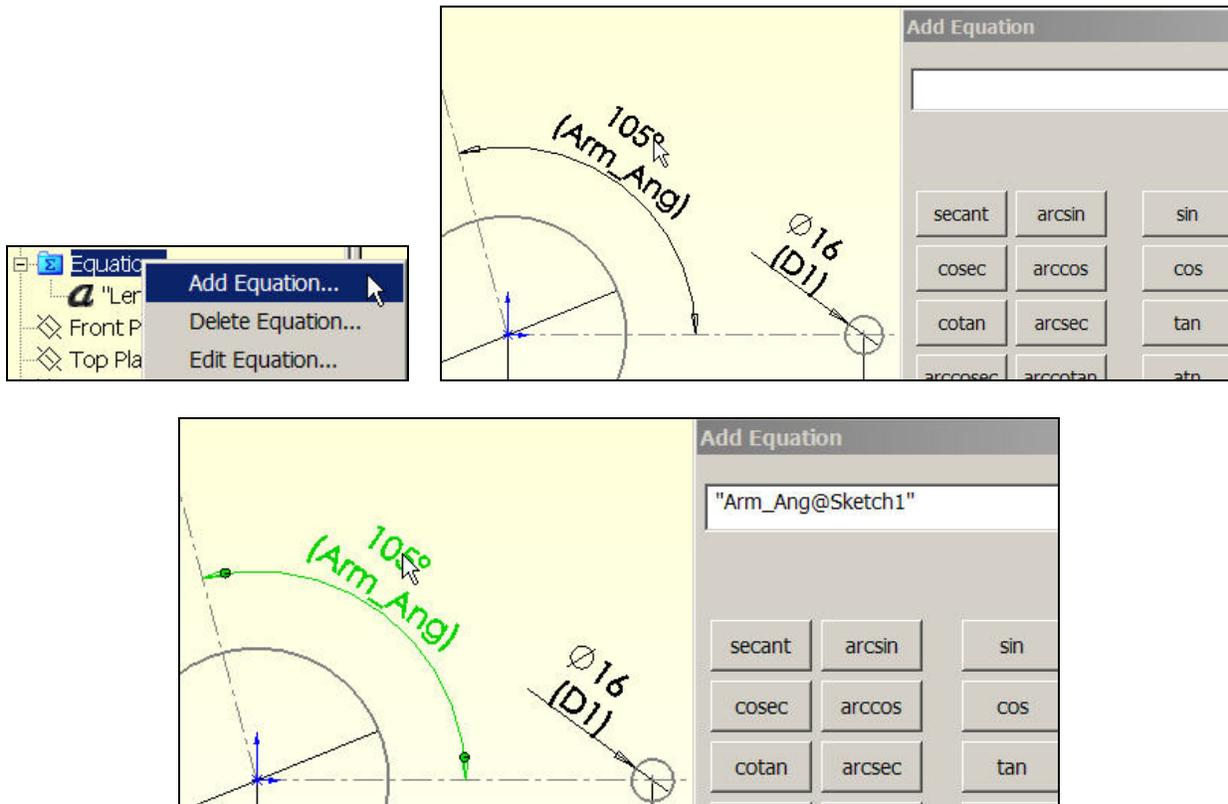

Figure 8 Clicking a dimension brings its name into an equation
3. Then the name “**Arm_Ang@Sketch1**” appears in the **Add Equation panel**, Figure 8.